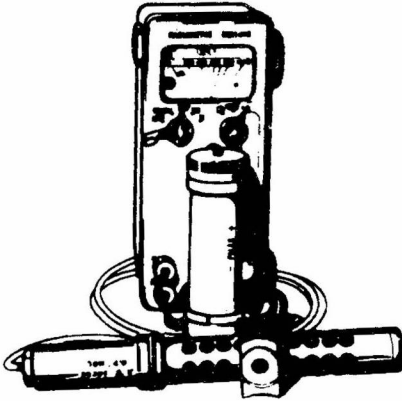

Fig. 14
- Set the sensitivity selector switch to 1 000 and place the probe in the source (fig.14). The instrument shall read 400 to 1 000 c/s.